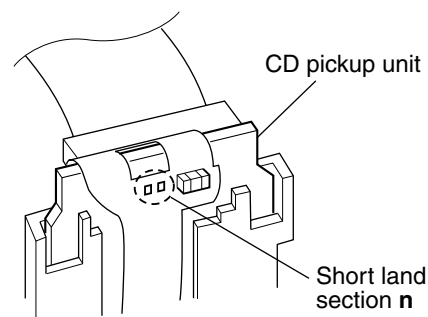

Fig.16
**[Caution]** · Be sure to apply solder in order to short land section **n** on the CD pickup unit before removing the wire from the CD pickup unit (see Fig. 16). If the card wire is removed without applying this solder, the CD pickup may be damaged.